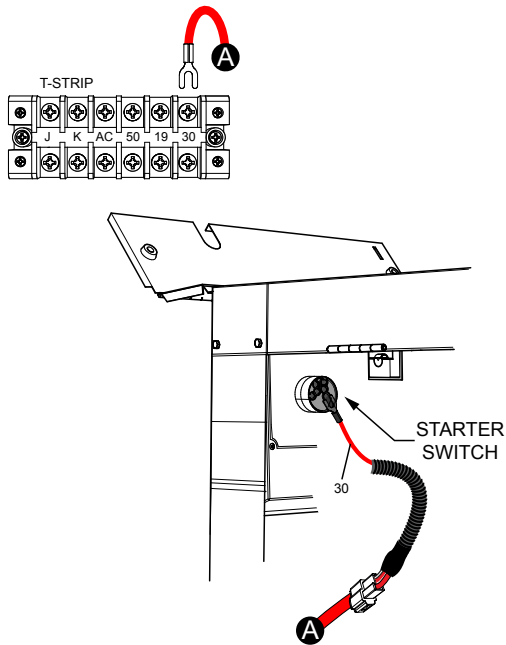

Figure 7. T-Strip, Terminal 30 Wire Removal
1. Using a phillips head screwdriver, disconnect (Figure 7) the existing T-strip, terminal 30 red wire.